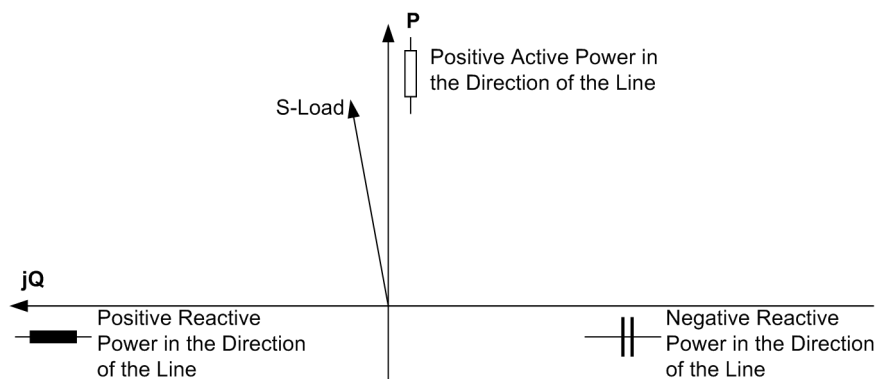

Figure 3-31 Apparent load power
- The measured power values on the actual device or in DIGSI enable you to verify that they correspond to the load direction (Figure 3-31):